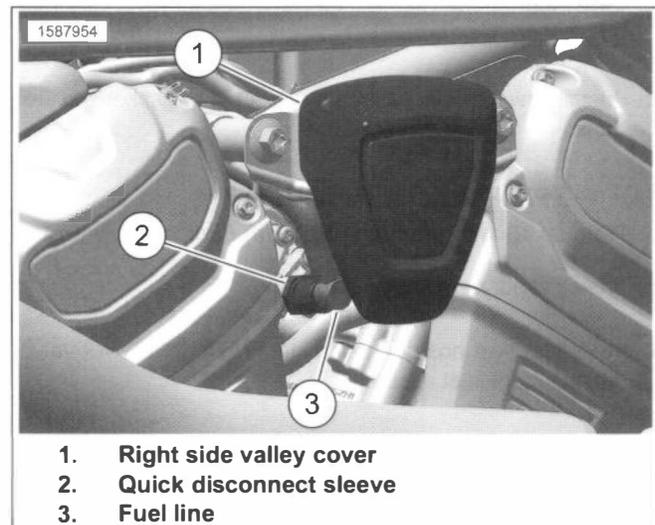
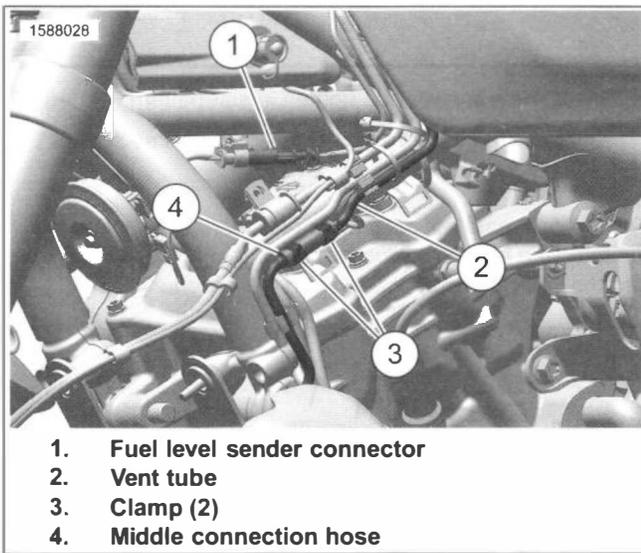
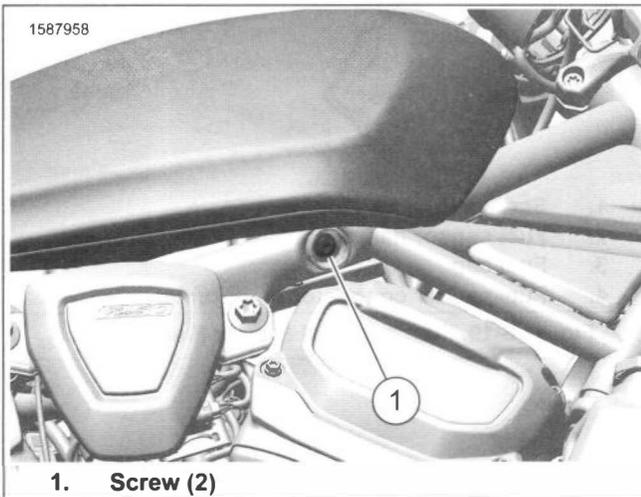

Figure 6-14. Fuel Line to Fuel Rail Connection
Figure 6-15. Fuel Level Sender Connector
Figure 6-16. Fuel Tank Mount Screws (Right side shown, left side same)
1. See Figure 6-14. Disconnect fuel line at fuel rail.
2. See Figure 6-15. Disconnect fuel level sender connector (1).
- a. Remove clamp (3).
- b. Remove vent tube (2) from hose (4).
4. See Figure 6-16. Remove front fuel tank mounting screws (1).
- c. See Figure 6-15. Route vent tube (2) into position while installing fuel tank.
- f. See Figure 6-16. Install Screws (1). Tighten.
2. See Figure 6-15. Connect fuel level sender connector (1).
- a. Connect vapor vent tube (2) into hose (4).
- b. Install clamp (3).
4. See Figure 6-14. Connect fuel line.
- a. Push in on sleeve of quick-disconnect (2) fitting. Insert neck of fuel supply line fitting (3).
5. Install right side valley cover (1).